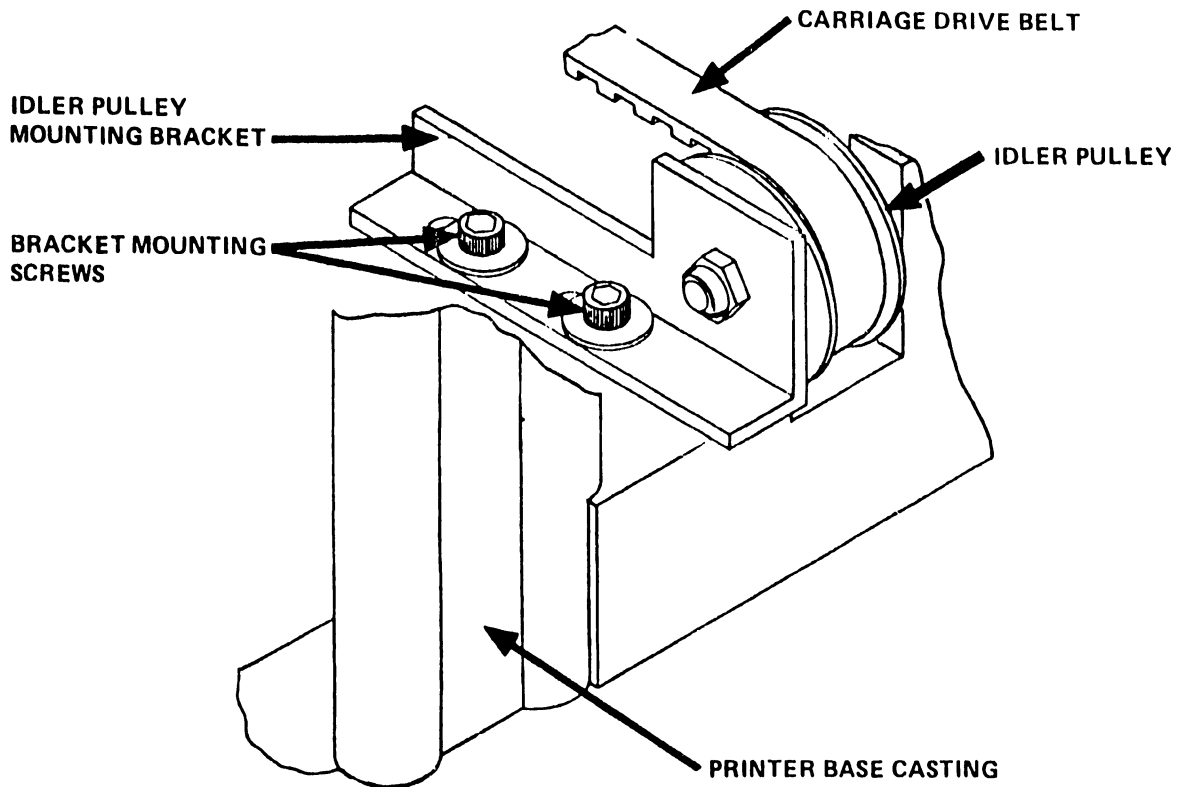

Figure 5-48. Idler Pulley
1. Loosen the two mounting screws on the idler pulley bracket. See Figure 5-48. Slide the pulley bracket to tighten or slacken the drive belt until proper tension is achieved; then tighten both bracket mounting screws. Recheck the belt tension.